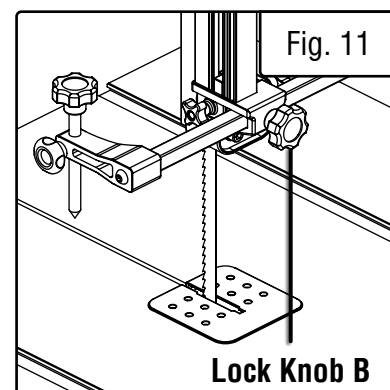

Fig. 11
2. Fix the sliding bar into the bearing bracket of the upper guard assembly. Slide it into the desired position and secure it with tightening Lock Knob B (Fig. 11).